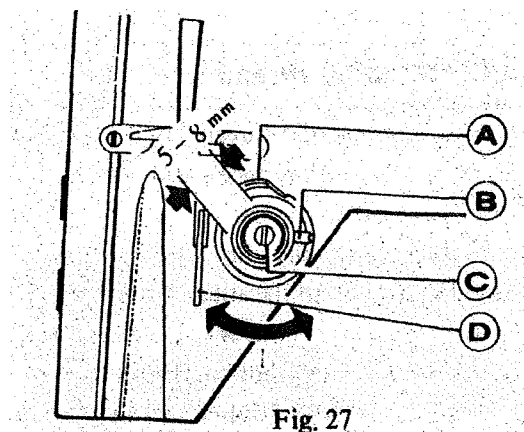

Fig. 27
(2) Adjusting the swing range of thread take-up spring (Fig. 27).